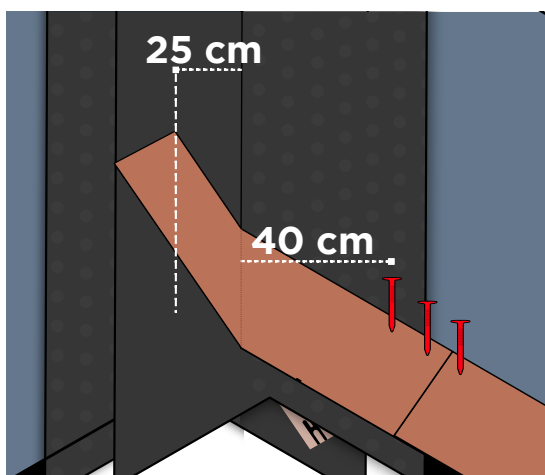

Fig. 12 - Shingles installation at valleys
- As for the roof valleys, prepare a band of bituminous membrane about 100cm wide, applied by torch in advance, to ensure its waterproofing - Fig. 12. Install the starting row and the shingles of the first pitch, making them rise 25 cm above the valley line. It is advisable to cut the shingle, once installed, following a parallel line to the valley at 25cm. The shingles should be fixed by torch where there is the bituminous membrane and by nail in the remaining part. Do not nail the shingles less than 40 cm from the valley line - Fig. 12.